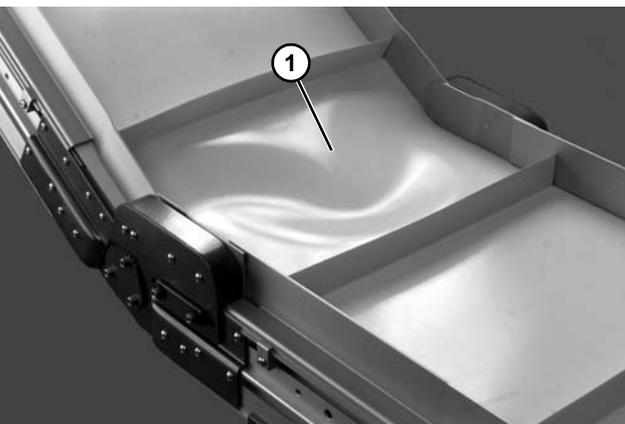

Figure 39
Bowing of the belt (**Figure 39, item 1**) may occur if excessive tension is applied to the belt. Do not over tension the belt.